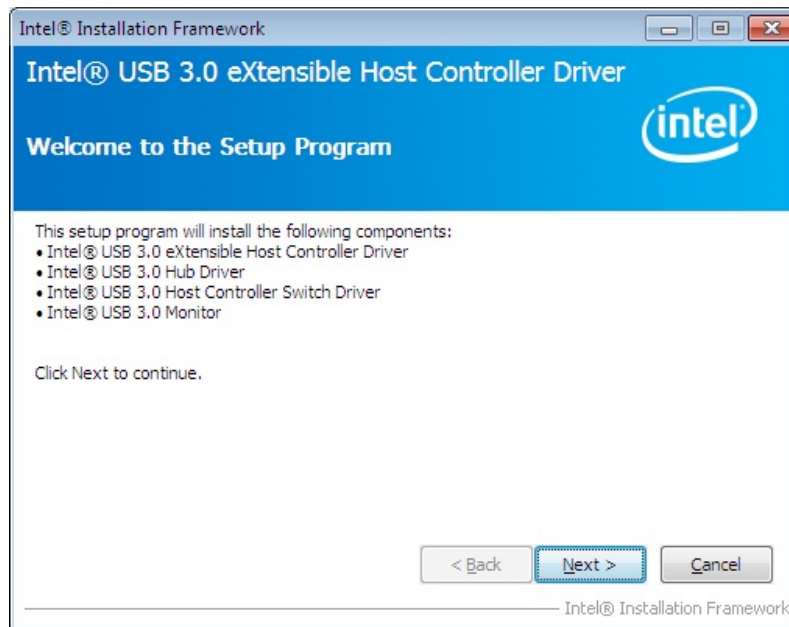

Figure 6-22: USB 3.0 Driver Welcome Screen
- Step 4:** The **Welcome Screen** in **Figure 6-22** appears.